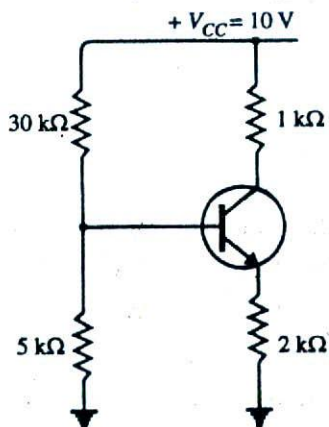

Fig. 11.35
8. In a transistor circuit shown in Fig. 11.35, find the operating point. Assume silicon transistor is used. [$I_C = 0.365 \text{ mA}$, $V_{CE} = 8.9 \text{ V}$]